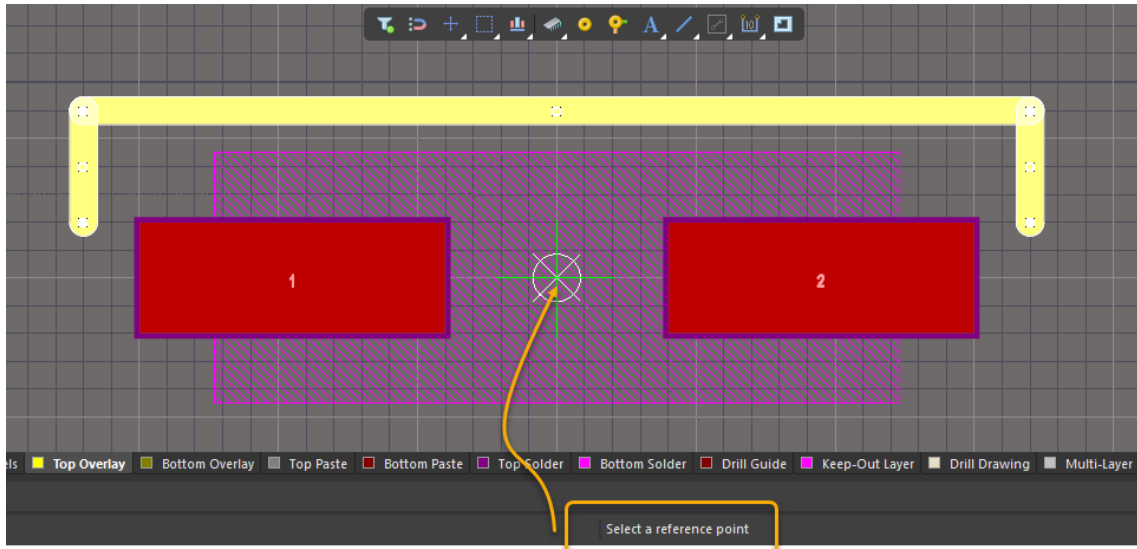

Figure 45. Copy the upper outline and set a reference point in preparation for pasting
- The cursor becomes a crosshair, and a message is displayed at the bottom of the screen: *Select a reference point* as shown in Figure 45.